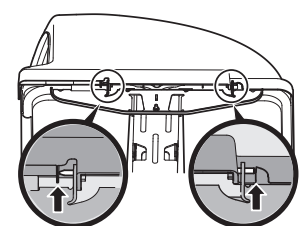

Figure 10
6. At this point the pin clips into place and is secured by a tab in the bagger cover. See insets in Figure 10.